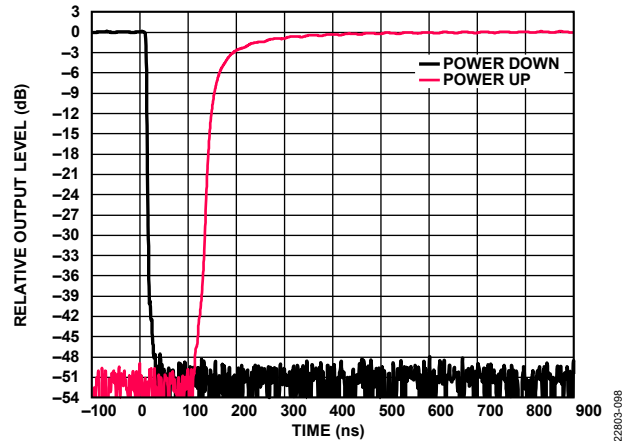

Figure 100. Relative Output Level vs. Time, Power-Up and Power-Down
The ADMV4530 includes a power-down (PD) pin that when enabled turns off the mixer and output driver section of the chip but keeps the PLL and VCO active. For applications where a fast power-up time is required, this standby mode is useful for muting the RF output signal while keeping the PLL locked. Figure 100 shows the typical response time of the PD pin.